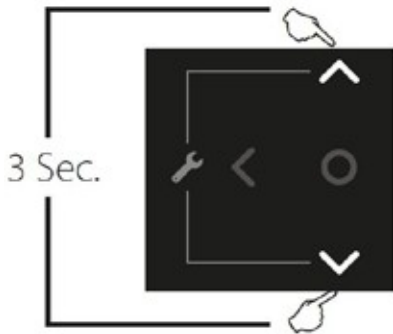

Fig. 8: Installer Button
| Fig. 8: Installer Button..... | 5 |
1. To access the Installer screen, touching simultaneously the up and down soft keys for 3 seconds as shown in Fig. 8.